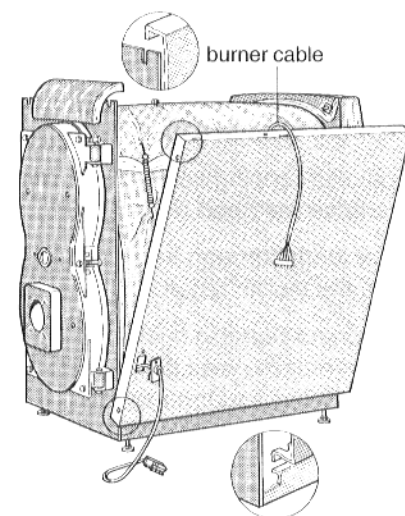

Fig. 7
Before fitting the jacket, burner cables must be fed through the appropriate opening in the side panel (Fig. 7).
- Feed the burner cables through the opening in the side panel (Fig. 7).
- Attach the side panels on the right and left using the lower slits in the front and rear panels of the boiler body (Fig. 7).
- Attach the side panel with the top folded edge in the slits in the front and rear panels of the boiler body (Fig. 7).